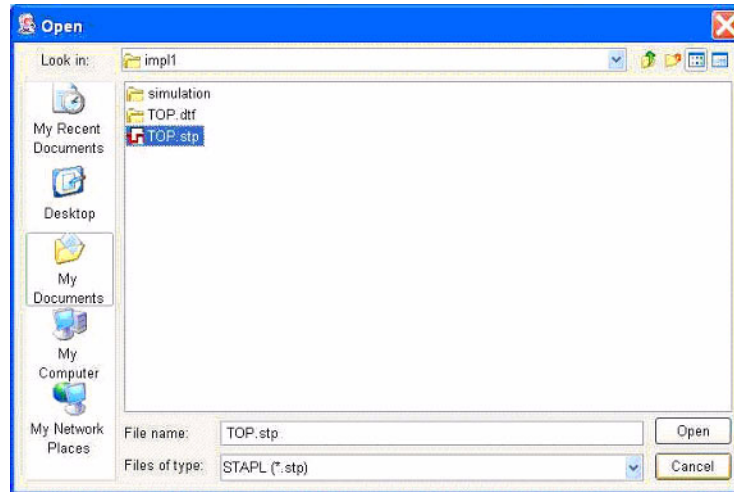

Figure 7-43. Open STAPL File Dialog Box
1. Click the **Open File** button in the toolbar; or from the **File** menu, click **Open STAPL file**. The Open dialog box will appear, as shown in Figure 7-43.